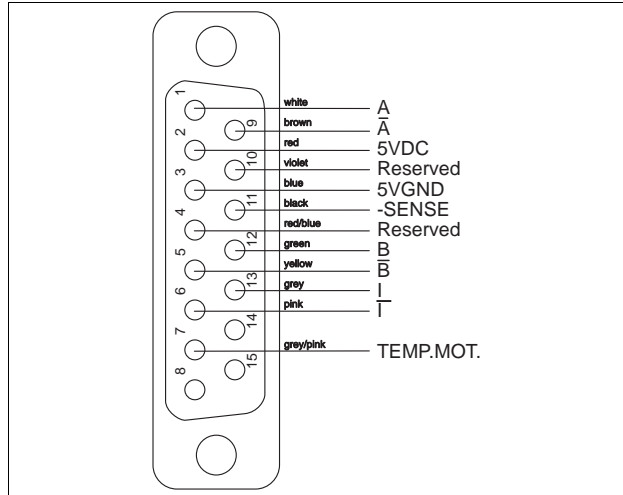

Fig. 2-6 Shaft encoder connector – unit side
1. Solder the litz wires to the connector according to fig. 2-6.